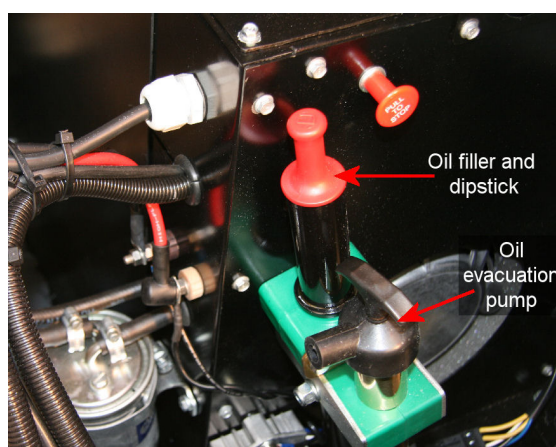

Fig 2-1 Oil filler/dipstick and pump
4. Remove the dipstick (*Fig 2-1*) and allow a few moments for the oil level to settle.
4. Remove the filler cap/dipstick (*Fig 2-1*).